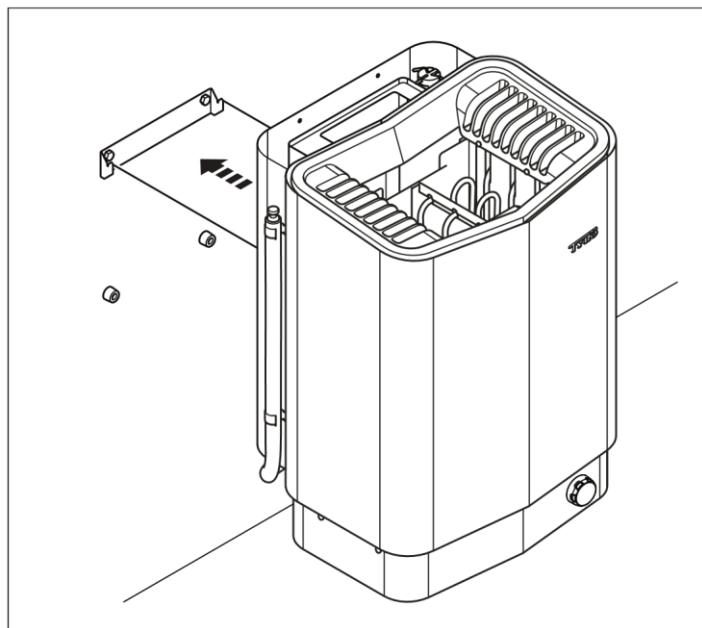

Figure 11: Appendere il riscaldatore.
9. Hang the heater on the bracket (see Figure 11).